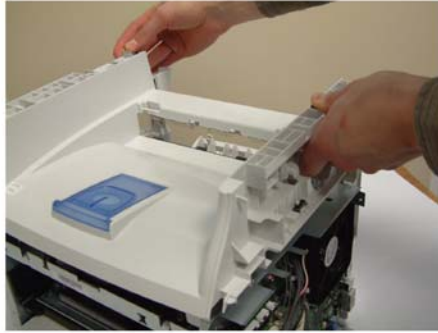

Figure 2
2. Lift and remove the output tray assembly, Figure 2.